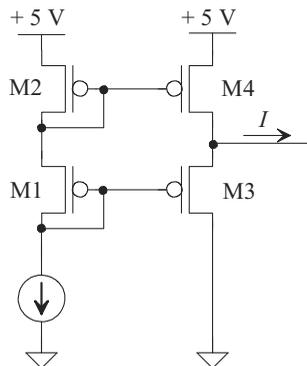

Figure 9.43 Schematic for Problem 9.8.
- 9.8 Describe qualitatively what happens if we steal or inject a current at the point indicated in Fig. 9.43. How does this affect the operation of M1 and M2? Verify your answer with SPICE.